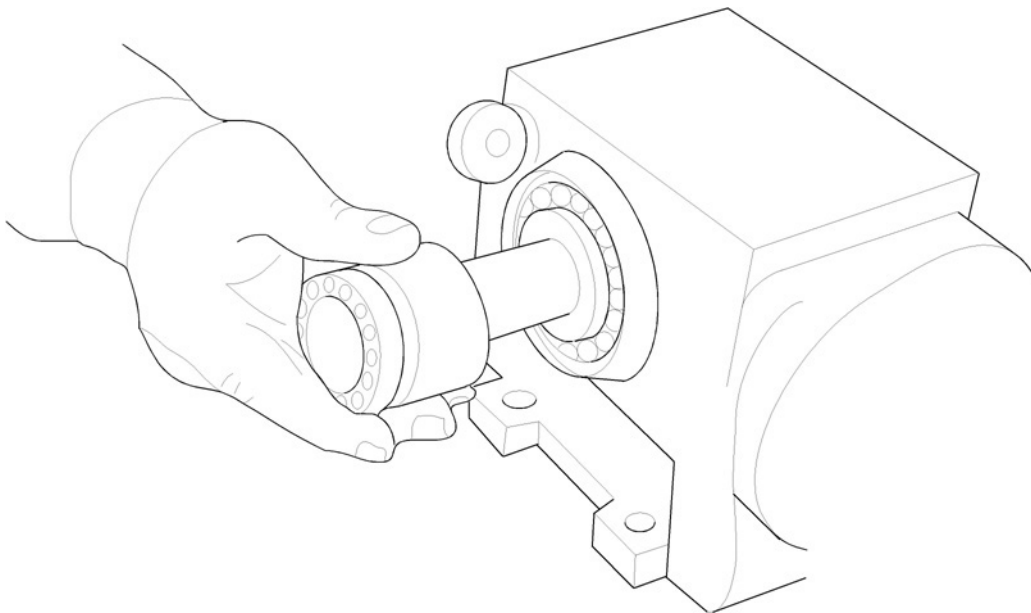

Fig. 5-9 Remove the ring block from the motor shaft
12. Remove the ring block from the drive shaft as shown in Figure 5-9.